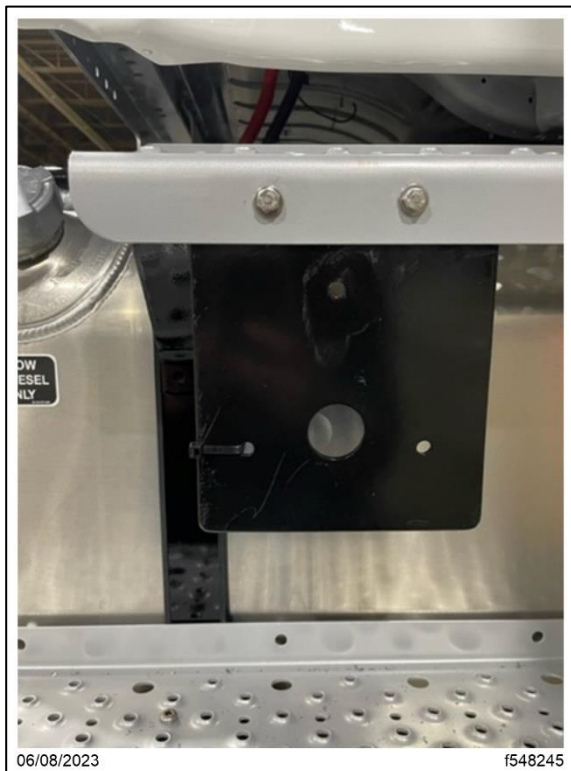
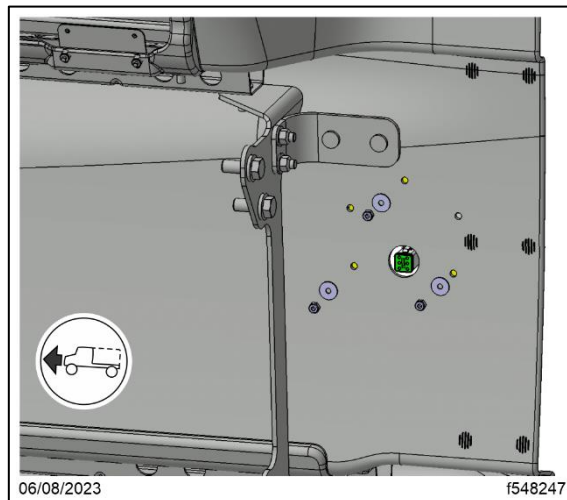

Fig. 6, Step Mounting Bracket Showing Hole for Harness Routing
Fig. 7, Washer and Locknut Installation
- Align the sensor to the mounting holes, then install three #10-24 screws through the sensor. On the back of the fairing or mounting bracket, install a flat washer and a #10-24 nylon self-locking nut, as shown in **Fig. 6**. Tighten the nut 18 to 20 lbf·in (203 to 226 N·cm). Do not over-tighten the nut. See **Fig. 7**.